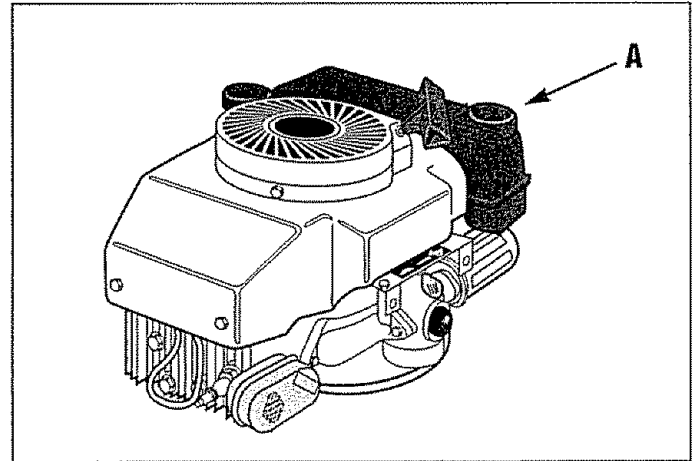

Figure 19: Fill fuel tank.
2. Clean area around fuel fill cap and remove cap (A in Figure 19) from fuel tank.